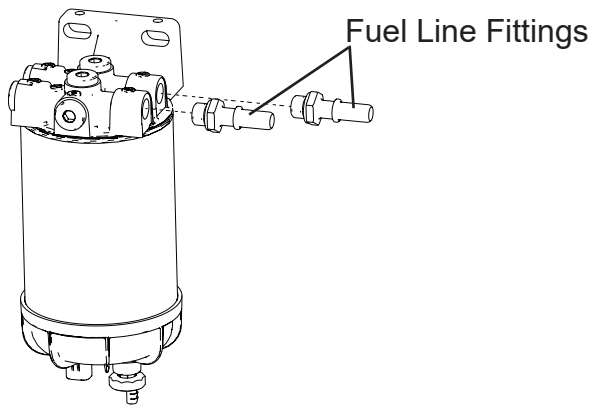

Figure 2
7. Place fuel filter assembly on a bench and remove the two fuel line fittings from filter assembly, see Figure 2.